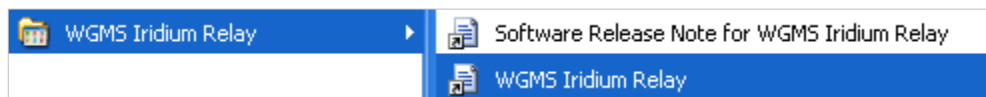
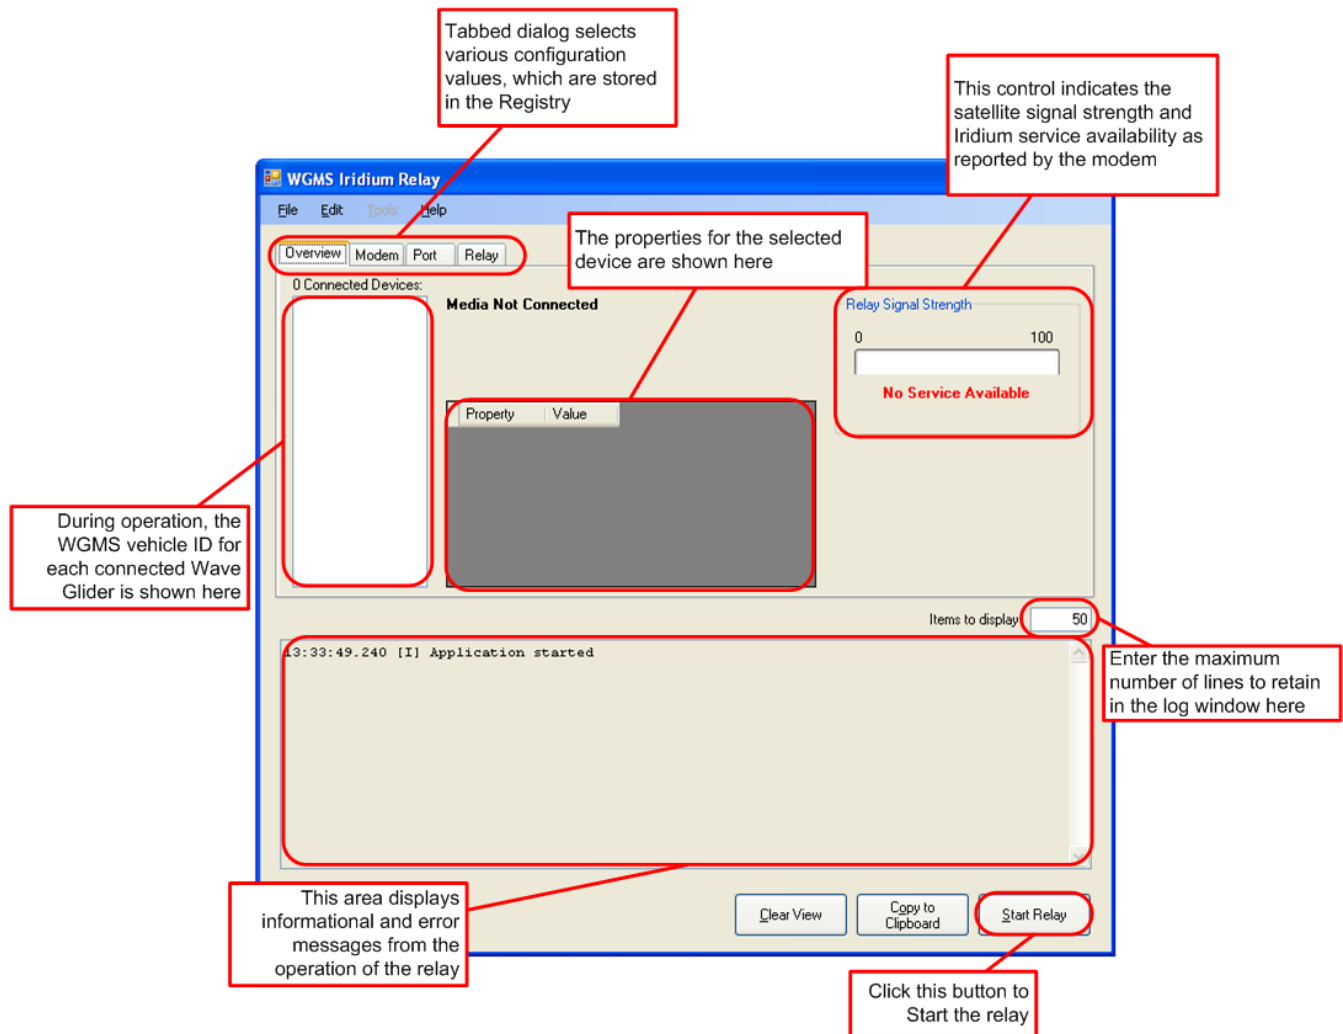

Figure 5-8: Iridium Relay on Start Menu
Figure 5-9: Iridium Relay Annotated Start-Up Screen
- 1) Click on the WGMS Iridium Relay shortcut shown in Figure 5-8 to start the relay. The startup screen, shown annotated in Figure 5-9 below, should come up: